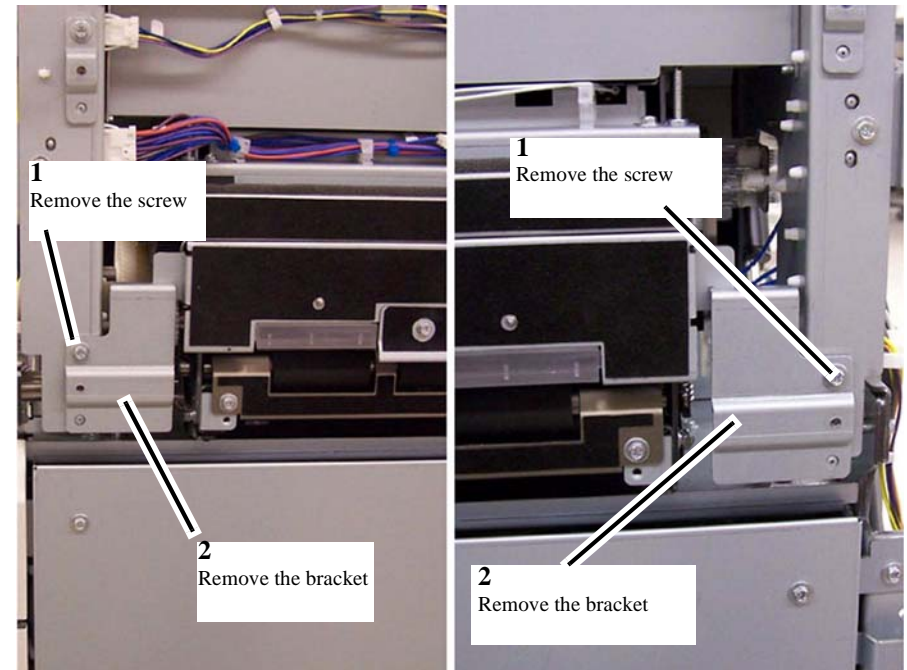

Figure 1 Left and right bracket removal
3. Remove the left bracket and the right bracket that secure the Exit Upper Baffle/Decurler Assembly to the frame (Figure 1).